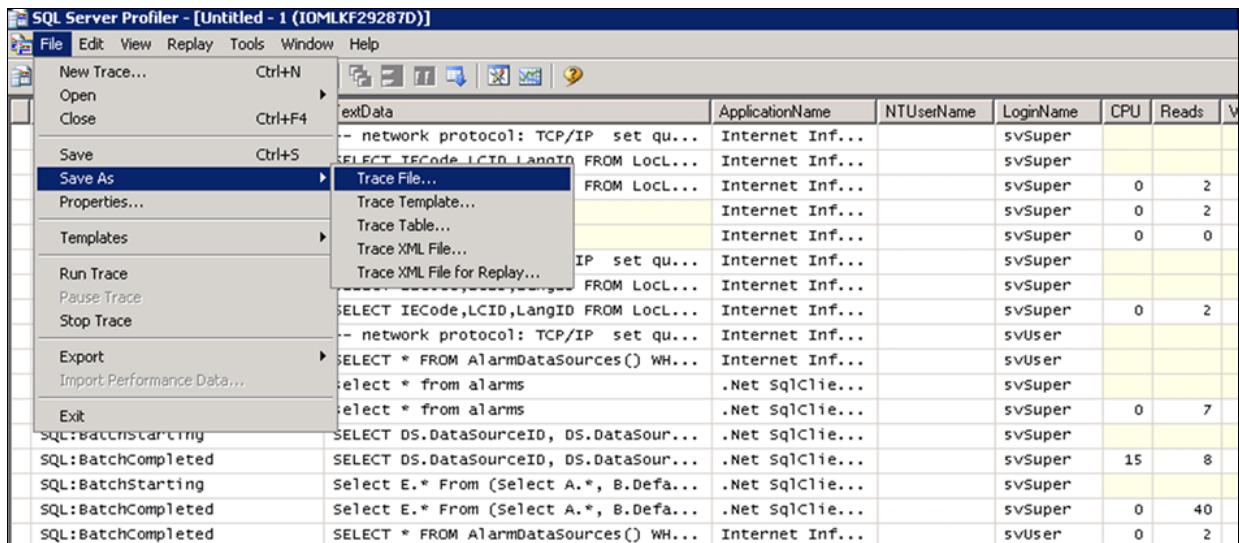

FIGURE 10: SAVE THE HISTORY ALARM TRACE TO A FILE
4. Save the History Alarms Trace to a file (Figure 10 below).